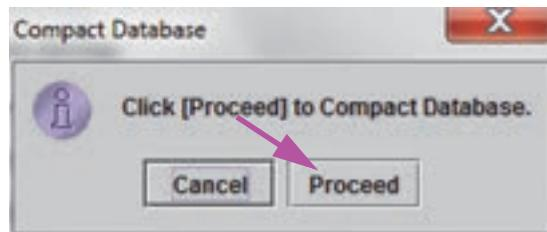

Figure 5-83. Compact Database Confirmation Dialog Box
2. Click **Proceed** on the Database Management window. The Compact Database confirmation dialog box appears. See Figure 5-83.